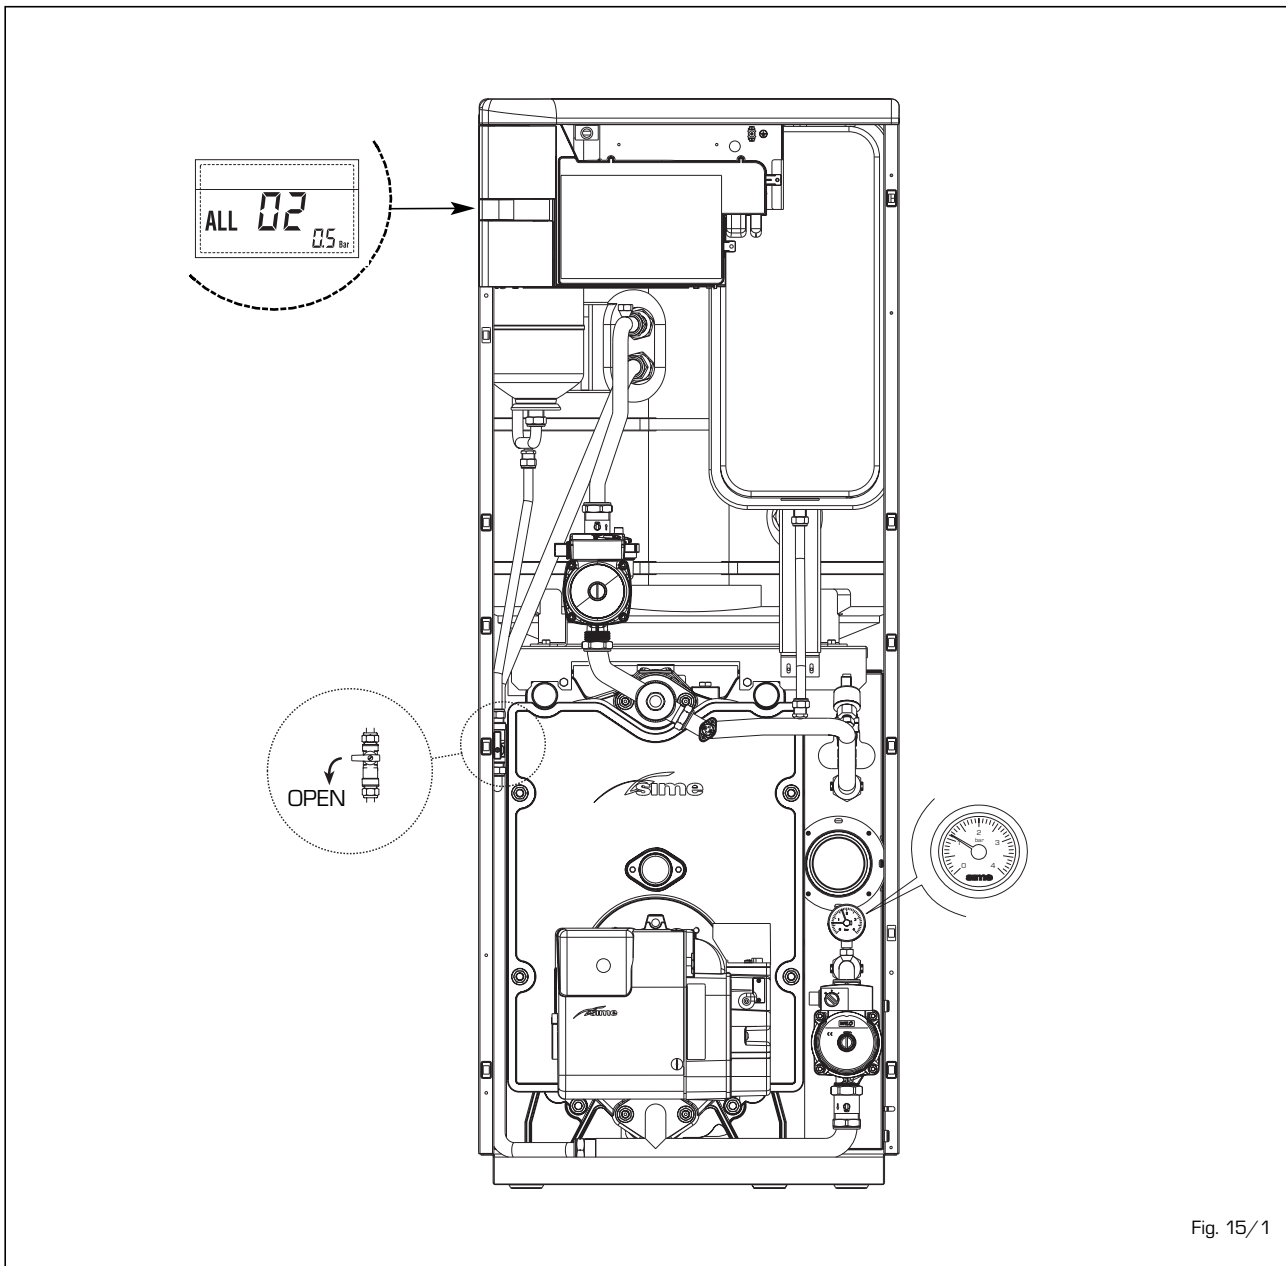

Fig. 15/1
- **HIGH WATER PRESSURE ANOMALY ALARM 03 (fig. 15/2)**